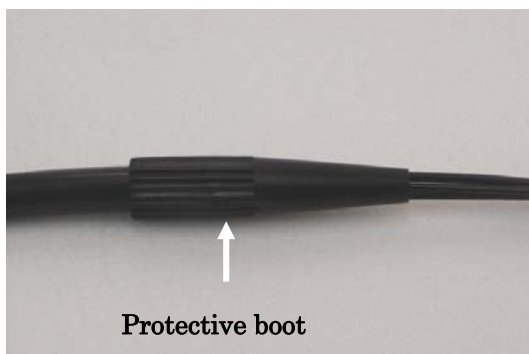

Fig.6
- (3) Insert the optical fiber cords and the tension member into the protective boot and cover the end of the sheath with the protective boot. (Fig. 6)